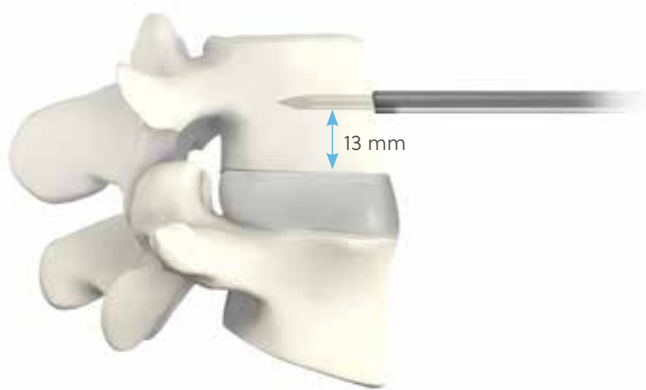

Figure 3
- Unscrew the pin holder and remove the pin sleeve holder, then confirm proper placement under fluoroscopy (**Figure 3**).